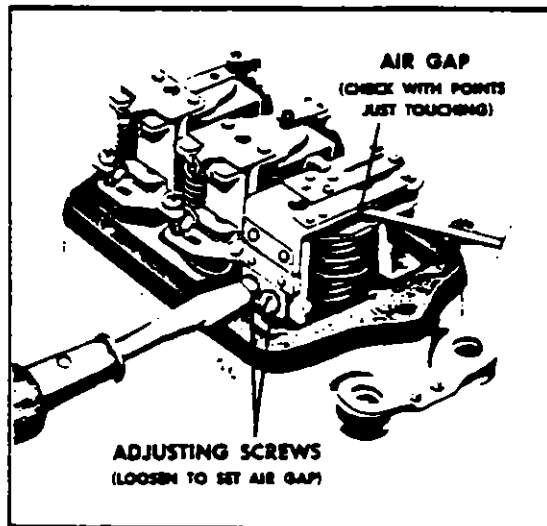

FIGURE 9-9. CUTOUT RELAY AIR GAP CHECK AND ADJUSTMENT
a. Air Gap - Place fingers on armature directly above core and move armature down until points just close and then measure air gap between armature and center of core (Figure 9-9). On multiple contact point relays, make sure that all points close simultaneously. If they do not, bend spring finger so they do. To adjust air gap, loosen two screws at the back of relay and raise or lower the armature as required. Tighten screws after adjustment.